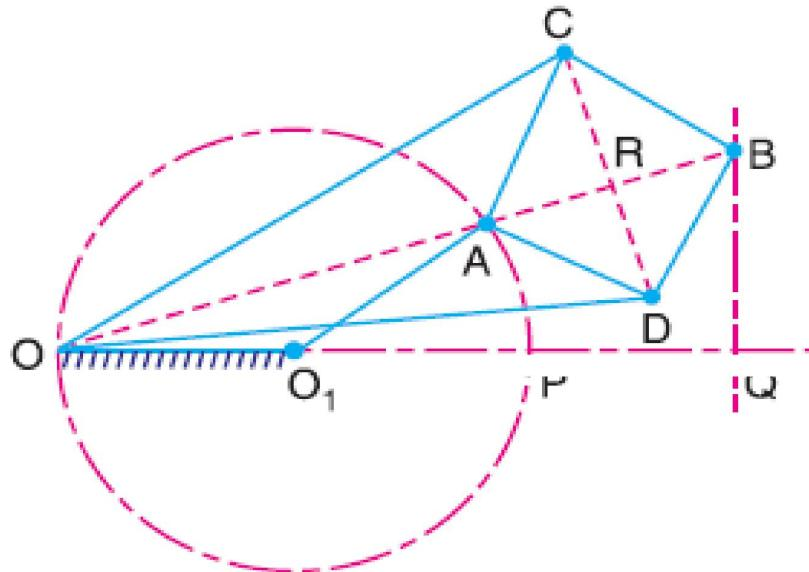

Fig. 4.2 Peaucellier Mechanism
- It consists of a fixed link  $OO_1$  and the other straight links  $O_1A$ ,  $OC$ ,  $OD$ ,  $AD$ ,  $DB$ ,  $BC$  and  $CA$  are connected by turning pairs at their intersections, as shown in Fig. 4.2
- The pin at A is constrained to move along the circumference of a circle with the fixed diameter  $OP$ , by means of the link  $O_1A$ . In Fig. 4.2